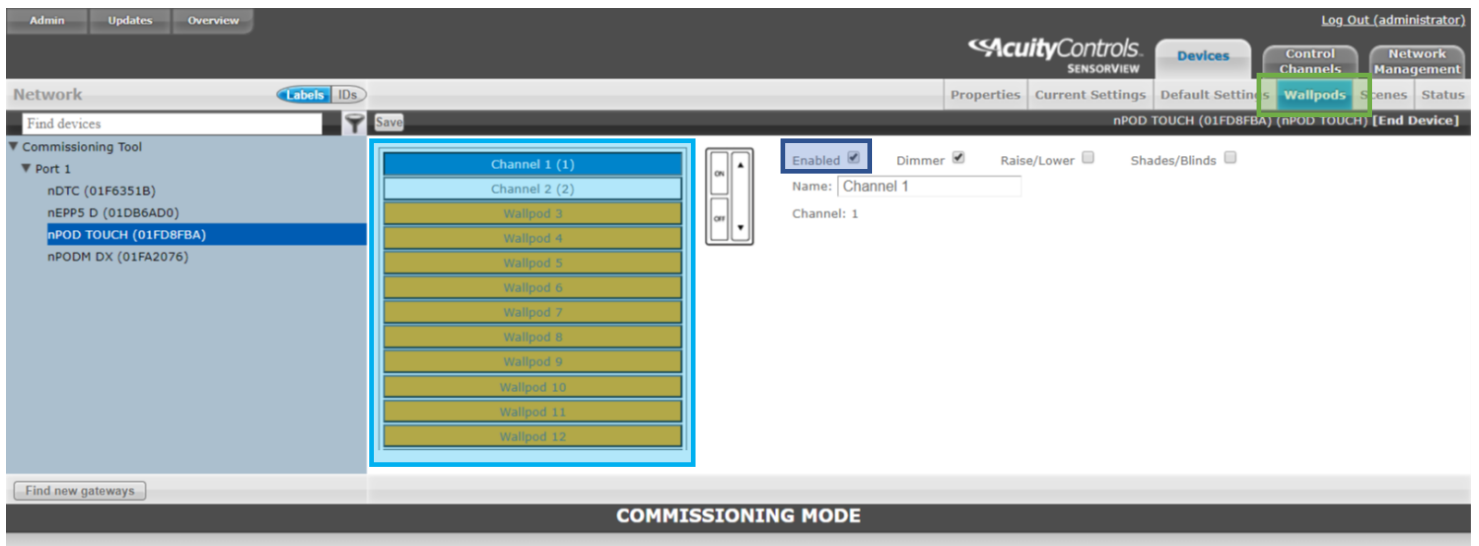

Figure 33- Enable WallPods through SensorView - Wallpods Tab
- a. Navigate to the “Wallpods” tab (See Figure 33)